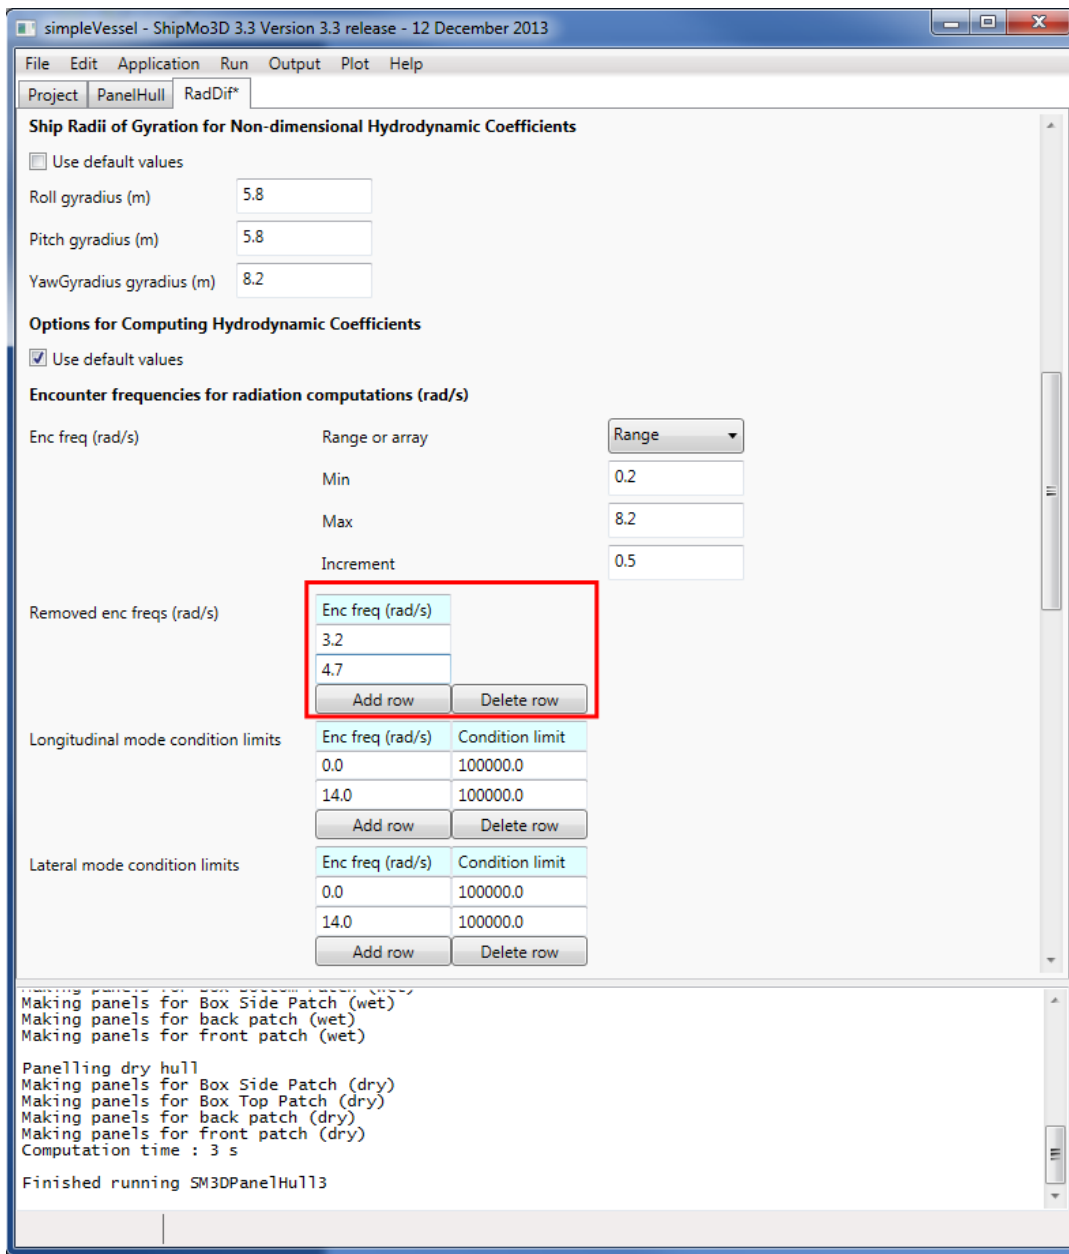

Figure 35: The RadDif application's pane highlighting how to removing irregular frequencies.
- ✦ In the 'Encounter frequencies for radiation computations (rad/s)' section, is a table without any rows titled 'Removed enc freqs (rad/s)'. Add the frequency entries for 3.2rad/s and 4.7rad/s as shown in Figure 35.